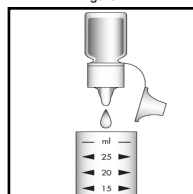

Figure 2
2. Add 8 drops of A-4701 Neutralizer Solution and 1 drop of A-4700 Indicator Solution to the sample (fig. 2). Stir to mix the contents of the cup.